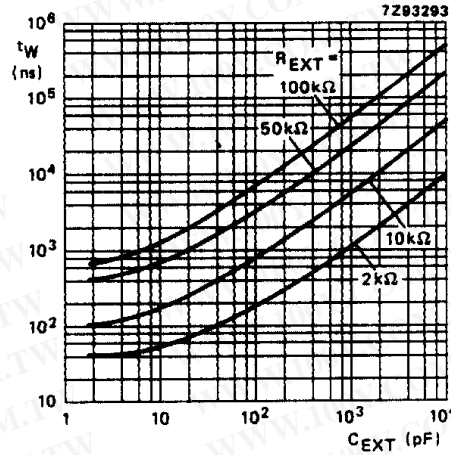

Fig.9 Typical output pulse width as a function of the external capacitor values at $V_{CC} = 5.0$ V and $T_{amb} = 25$ °C.
1. For other R_{EXT} and C_{EXT} combinations see Fig.9.